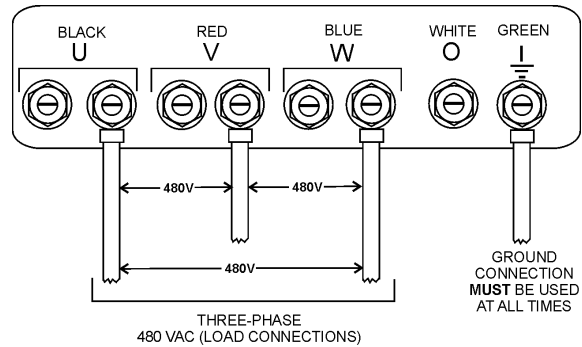

Figure 25. UVWU Terminal Lugs 1Ø-480V Connections
2. Connect the load wires to the UVWU terminals as shown in Figure 25.